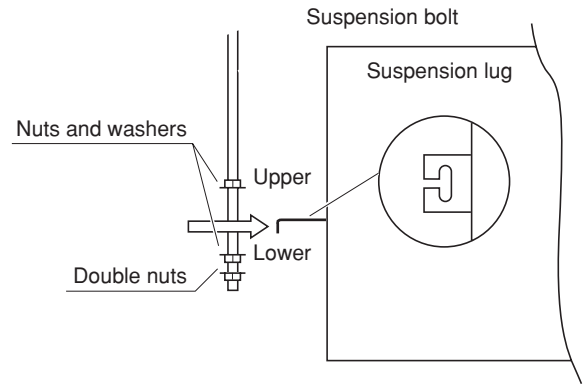

Fig. 3-7
- (2) Thread the 3 hexagonal nuts and 2 washers (field supply) onto each of the 4 suspension bolts as shown in Fig. 3-7. Use 1 nut and 1 washer for the upper side, and 2 nuts and 1 washer for the lower side, so that the unit will not fall off the suspension lugs.
- (3) The indoor unit should be suspended from the suspension bolts (Fig. 3-7) so that the distance between the bottom of the suspension lug and the bottom surface of the ceiling is 30 to 40 mm.